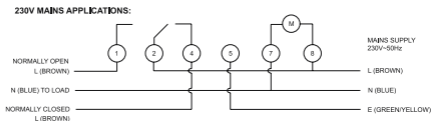
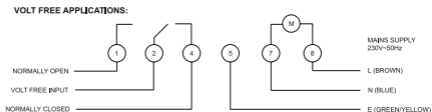

Fig 2
Fig 3
of having voltage free contacts (see fig 2). Refer to (fig 3) for voltage free contacts wiring. Ensure that all bare conductors are sleeved and that correct polarity is observed.
4. For mains switching (230V AC 50Hz) connect the supply to the terminals according to the wiring diagram noting that a link is required between terminals 2 and 8, this is due to the option of having voltage free contacts (see fig 2). Refer to (fig 3) for voltage free contacts wiring. Ensure that all bare conductors are sleeved and that correct polarity is observed.